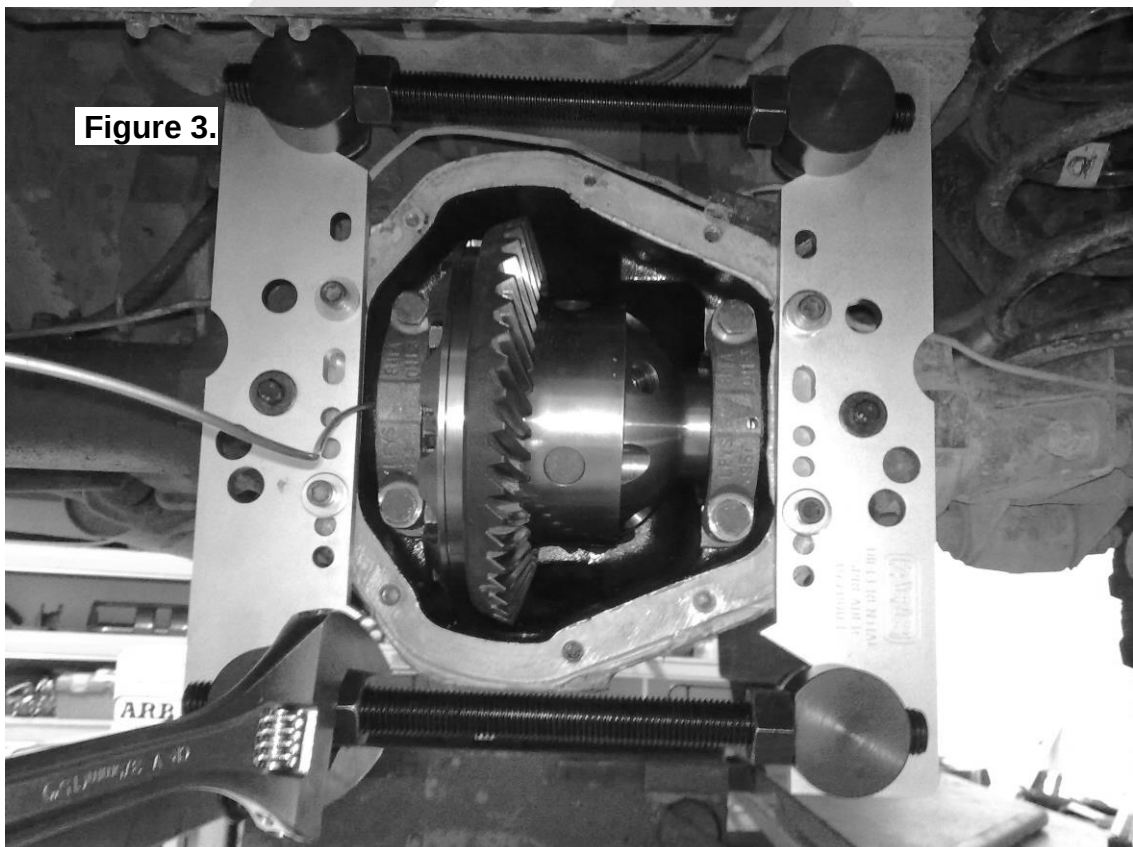

Figure 3.
- ☐ If the differential cannot be removed easily, you may have to spread the housing. (Figure 3.)